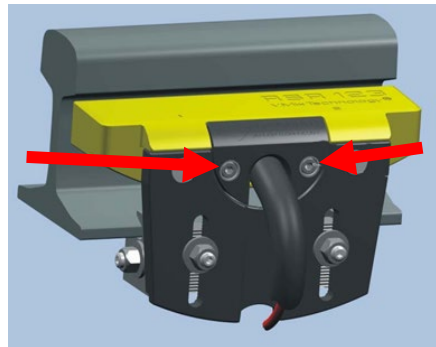

Figure 3 - Allen Screws
a) Figure 3 Allen Screws to 25Nm